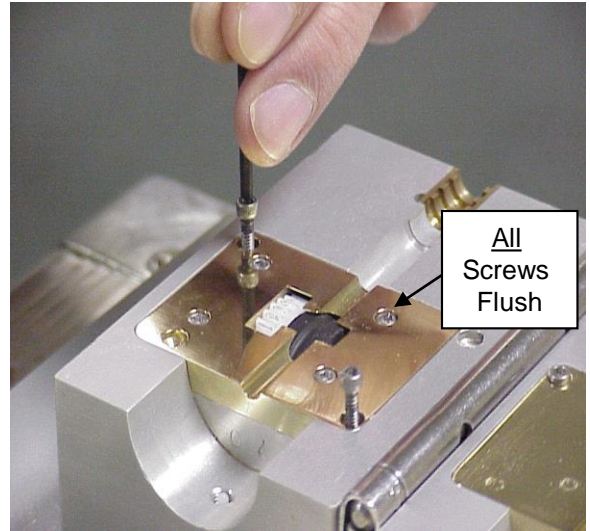

Figure 47
13.5.2.13 Replace two (2) long machine screws to secure Upper Brass Plate and lightly tighten. When properly assembled, the heads of the two (2) long screws will be flush with the Upper Brass Plate. **See Fig. 47.**